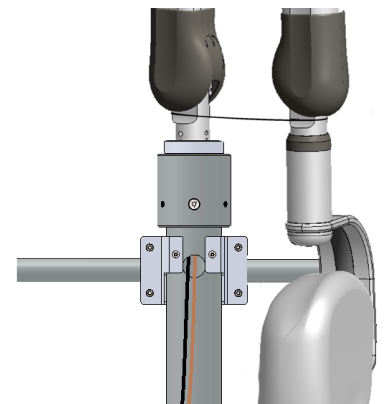

Figure 36
- Fix the scissor-arm attached with tube head on the base stand without damaging the cables as shown in Figure 36.